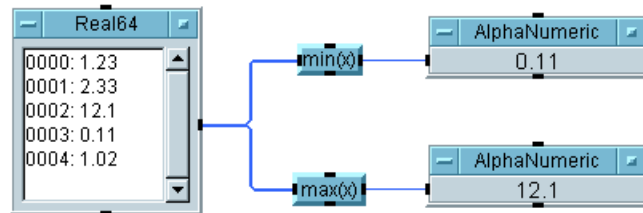

Figure 8-6. A Program with Two Parallel Subthreads
- **Subthreads** – A branch of a thread is called a subthread. When two subthreads begin at the same data output pin of the same object and there are no sequence or data lines between them, they are parallel subthreads. The program in Figure 8-6 shows two parallel subthreads branching from the data output pin of the Real64 constant object: